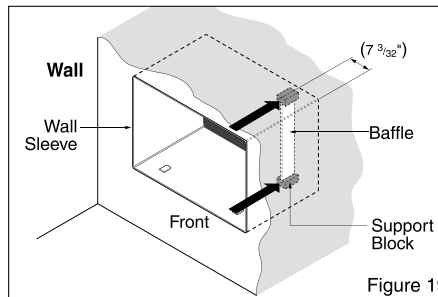

Figure 19
- 6** Remove the backing from the support blocks and attach them to the inside of the wall sleeve as shown in Figure 19. Slide the baffle into slots of the support blocks